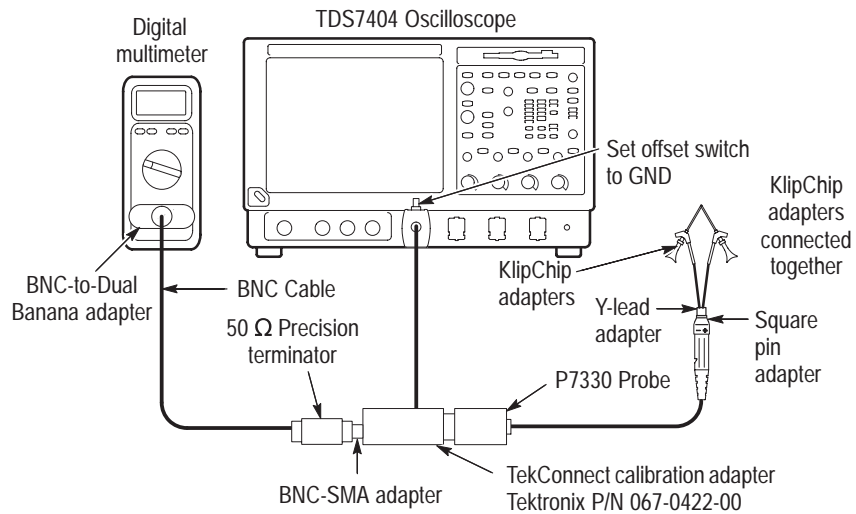

Figure 6: Setup for the output offset voltage test
1. Connect the equipment as shown in Figure 6.